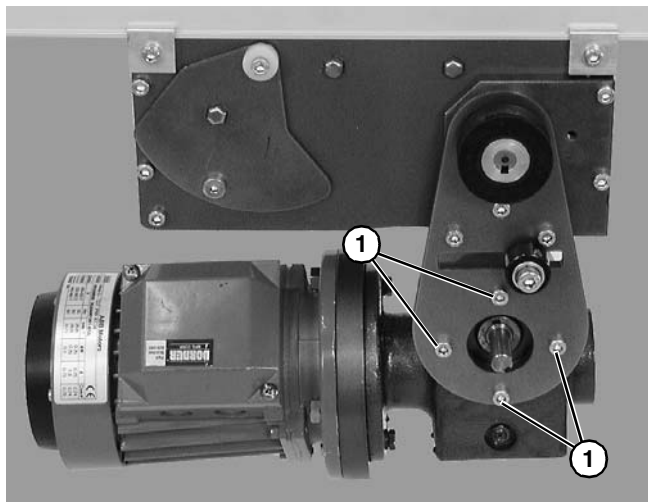

Figure 18
- Remove four (4) gear reducer mounting screws (**Figure 18, item 1**). Remove gearmotor.